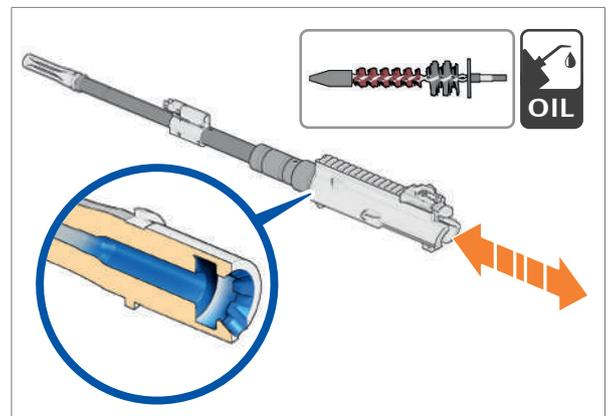

Fig. 110: Clean chamber and locking piece
16. Pull oiled chamber cleaning brush through the chamber and locking piece several times (*Fig. 110*).